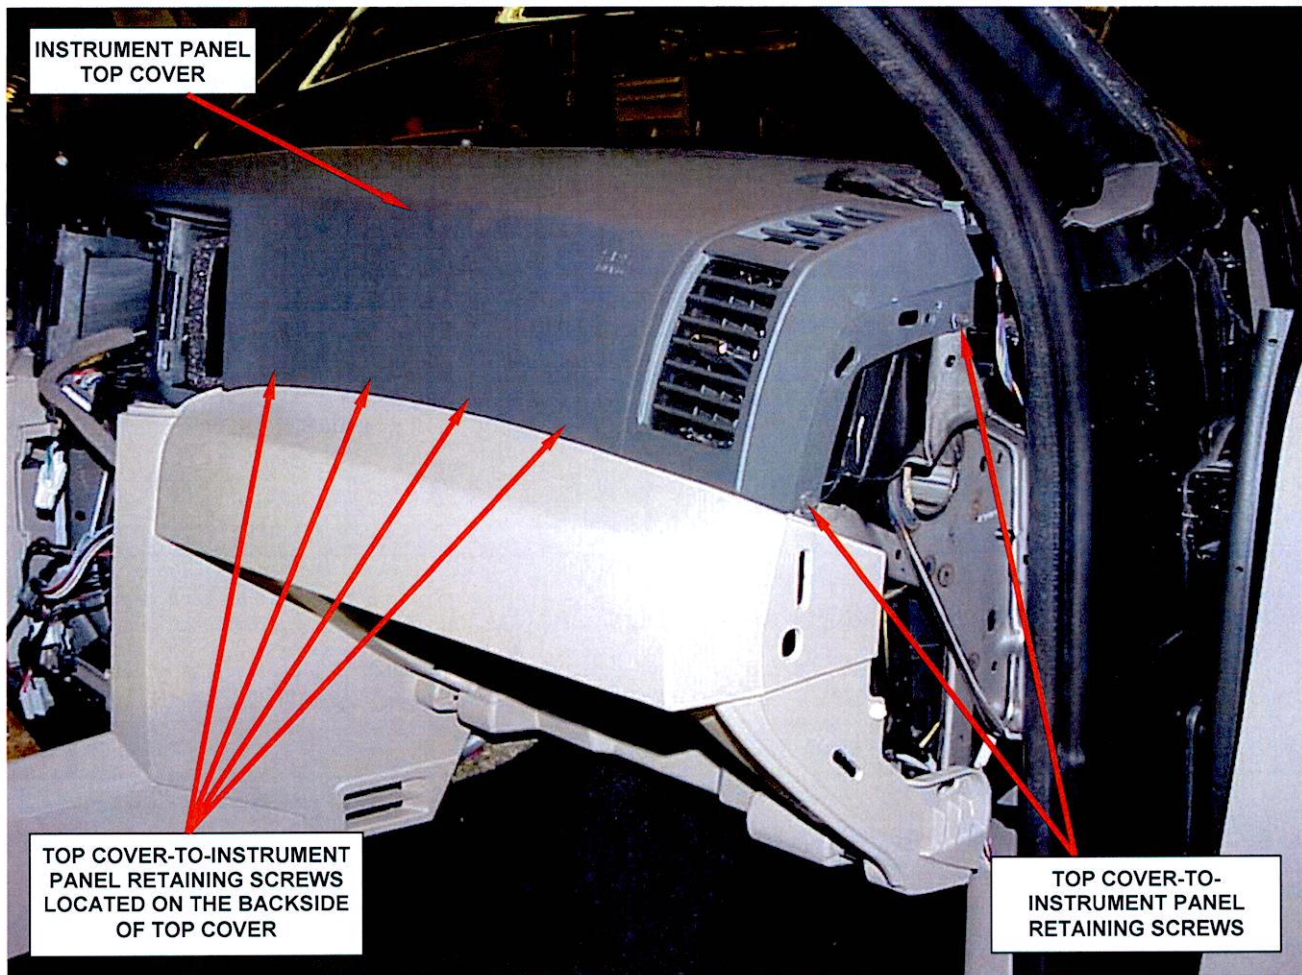

Figure 3 – Passenger Side Top Cover-to-Instrument Panel Retaining Screw Locations
17. Remove the six passenger side top cover-to-instrument panel retaining screws (Figure 3).
34. Install the top cover-to-instrument panel retaining screws (Figures 3, 4, 5, 6, and 8).